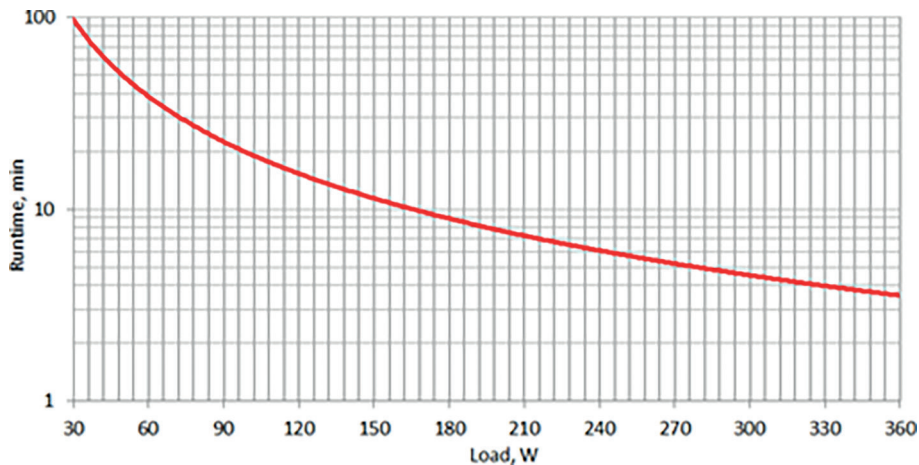

Figure 4. INFOPDU600 / INFOPDU600PL / INFOPDU600LCD autonomous operation schedule
4. Check whether the discharge time corresponds to the values given in figures 4 to 5. If the discharge time decreases by more than 50%, replace the batteries. UPS works with V.R.L.A. type lead-acid batteries, which are charged in the presence of a mains supply.